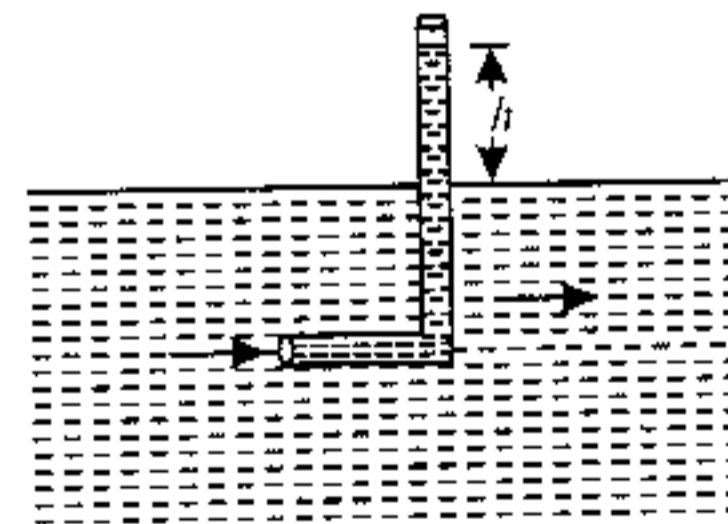

Fig. 16.38. Pitot tube.
1. **Pitot tube.** A pitot tube is a simple device used for measuring the velocity of flow at the required point in the flowing stream. In its simplest form it consists of a glass tube (large enough for capillary effects to be negligible) bent at right angle. The tube is dipped vertically in the flowing stream with its lower open end facing the direction of flow and upper open end projecting above the water surface in the stream as shown in the Fig. 16.38. The water rises up in the tube, due to pressure exerted by the flowing